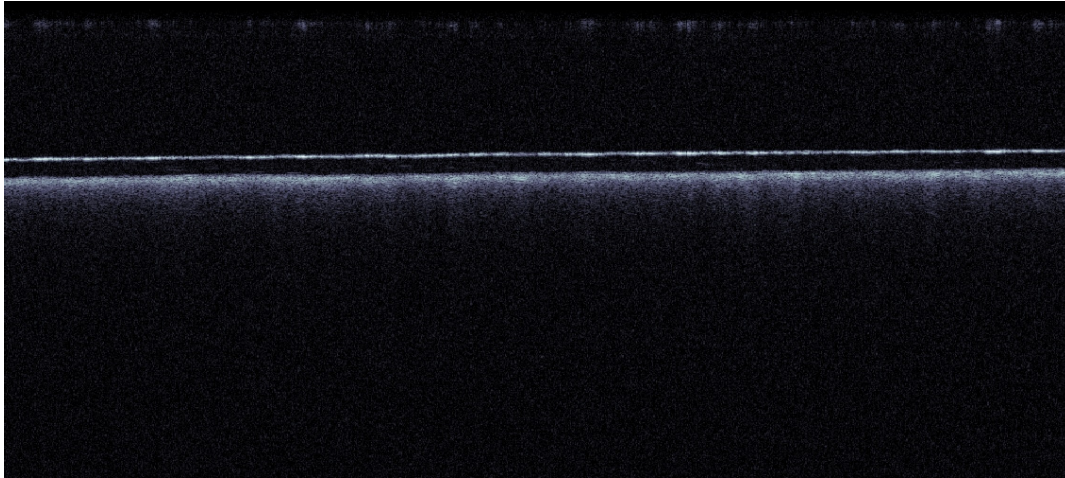

Figure 34 *B-Scan of an IR Viewing Card*
- When using the IR card for adjustment, your B-scan image should look as shown in Figure 34.